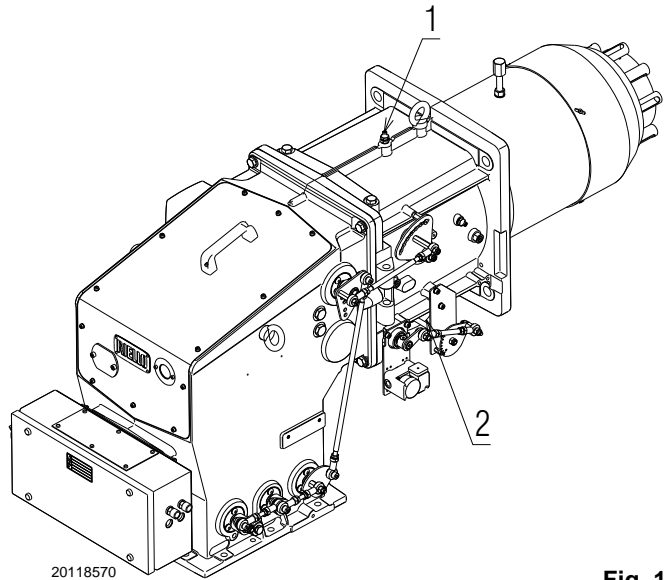

Fig. 16
Gas pressure measured at test point 1)(Fig. 16), with:
Pressure loss at gas butterfly valve 2)(Fig. 16) with maximum opening: 90°.
- subtract the pressure in combustion chamber from the gas pressure measured at test point 1) (Fig. 16).
Gas pressure at test point 1)(Fig. 16) = 27.4 mbar
To calculate the required gas pressure at test point 1)(Fig. 16), set the maximum modulating output required from the burner operation:
- Read, on the right (column 1), the pressure at the test point 1)(Fig. 16).
pressure required at test point 1)(Fig. 16).